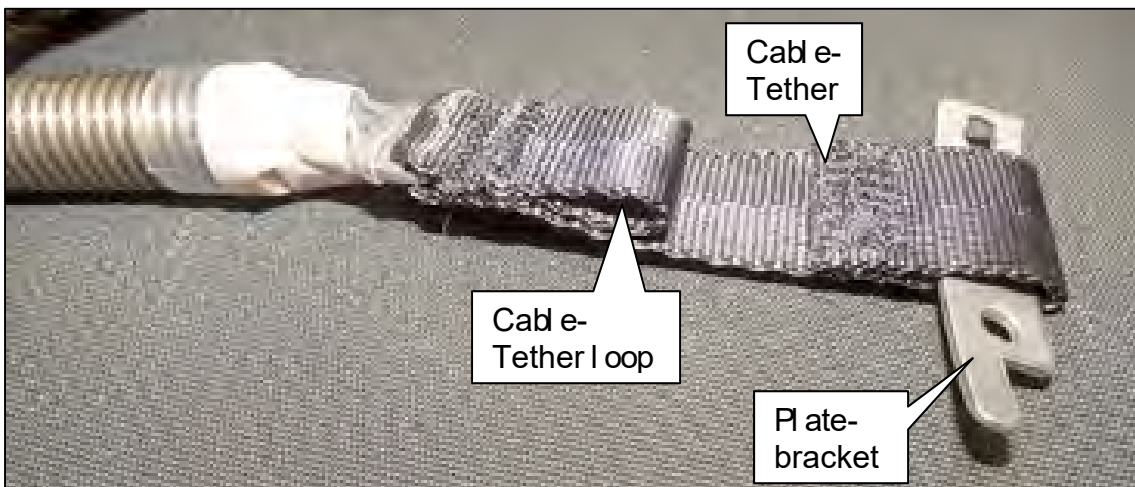

Figure 30
33. Insert the “side specific” plate-bracket through the loop in the Cable-Tether as shown in Figure 30.